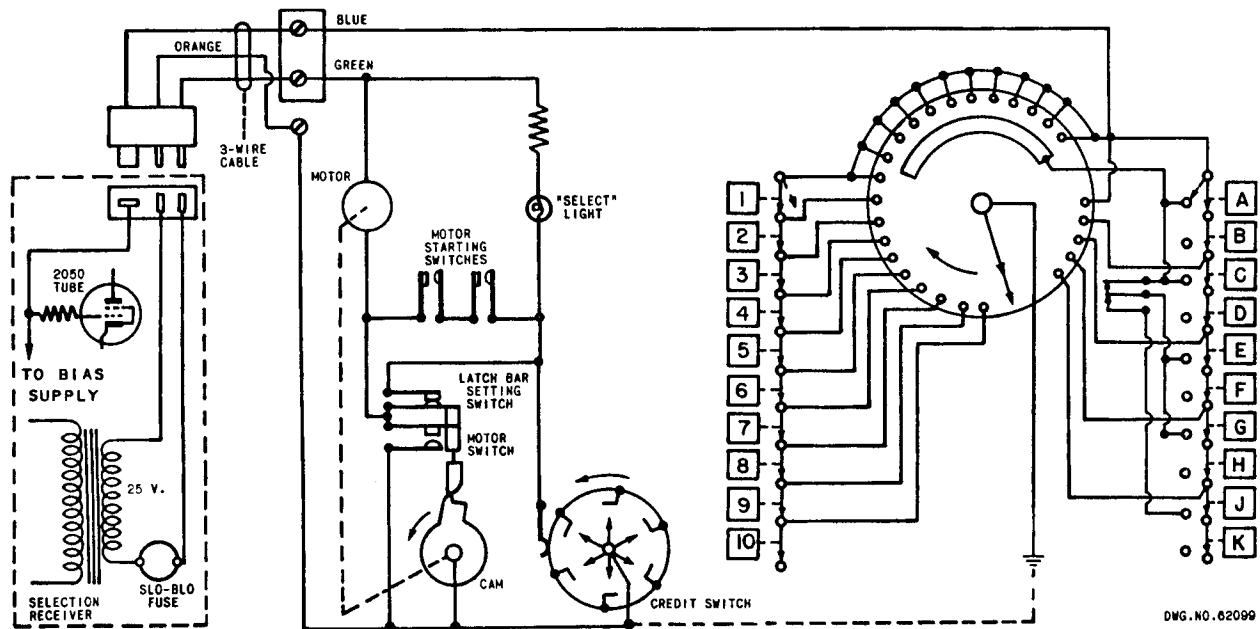
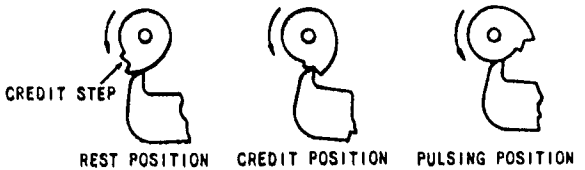

FIG. 2. SIMPLIFIED SCHEMATIC - 3W-1.
FIG. 3. CAM POSITIONS.
group solenoid of the Solenoid Assembly so they will be energized. This operation is dependent on the number of pulses and the intervals of time between them. Two series of pulses are required -- a first series for the selection of a selector coil circuit and a second series for selection of a group solenoid. The number of pulses in each series is determined by which Wall-O-Matic selection switches are pressed. There will be from 2 to 21 in the first series and from 1 to 5 in the second series. The rate of the pulses and the time interval between them is determined by the design of the Wall-O-Matic and the motor speed. This interval between individual pulses in both series is approximately 1/25 second and an interval of approximately 1/5 second occurs between the last pulse of the first series and the first pulse of the second series. A simplified circuit diagram of the connection of the selection circuit is shown in Figure 2.
In the Rest Position, the selector Buttons are free to move in and out, the Latch Bar Setting Switch shown in Figures 2 and 4 is closed, and the Credit Switch is open. When a coin is deposited to establish credit, a coin switch is closed momentarily to energize a credit solenoid. The credit solenoid, in turn, operates a plunger which closes one of six snap-action switches on the credit switch assembly. The closed credit switch completes a circuit to the credit indicating light and, through the latch bar setting switch, to the motor. The credit light illuminates the "Select" escutcheon in front of and below the program holder. The motor, operating through a train of gears, turns a cam until the latch bar setting switch is caused to open by the latch bar lever dropping to the "credit step" of the cam. These positions of the cam and lever are shown in Figure 3.
On each of the selection switch assemblies -- the "letter switches" and the "number switches" -- is a Motor Starting Switch. The contacts of the motor starting switches are closed by a treadle bar which is actuated by a selection switch shaft when a selector button is pressed. The two switches are connected in series in the motor circuit so that, when a letter button and a number button are pressed, the motor again starts. The motor turns the cam so the latch bar lever drops from the credit step to the Pulsing "Position" as shown in Figure 3. In this position of the cam and lever, the latch bars are moved to a position which locks the selection switches in position -- pressed in or in normal position -- and the Motor Switch (Figures 2 and 4) is closed. This pulsing position prevails for almost a full turn of the cam. As the cam approaches its rest position, the latch bar lever is raised so the motor switch opens, the latch bar setting switch closes, and the latch bar lever moves the latch bars so the selector buttons are released to their normal positions.
1. Turn the motor manually until the latch bar lever drops to the credit step of the cam then reverse the direction until the point of the lever is against the vertical part of the cam as shown in Figure 3.
The selection switches have three conditions of operation corresponding to the three positions of the cam shown in Figure 3 and 4 and are operated by the cam through mechanical linkage. In the rest position, the switch latch bars are held against the pressure of the latch bar springs so the selector buttons are free to move in and out and will not stay in the pressed-in position. In the credit position the bars are released to a position which permits a selection switch, when pressed, to latch in the operated position but, if another switch is operated, the first will be released. In the pulsing position the latch bars are fully released so the selection switches are locked in either the normal or pressed positions.
1. Place the cam in the Credit Position (Figure 3).